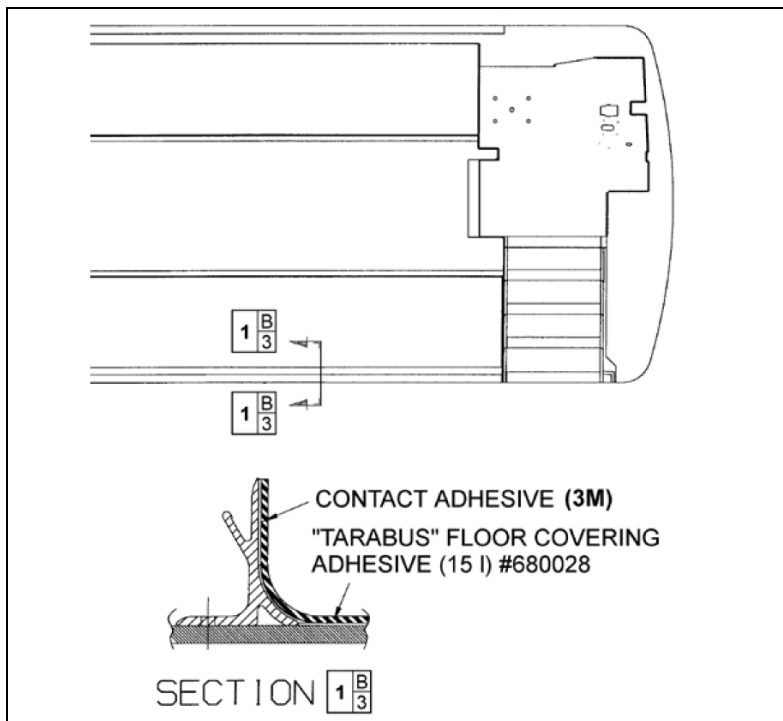

FIGURE 47: TARABUS FLOOR COVERING ADHESIVE APPLICATION 18640
6. Apply floor covering adhesive (680028) onto plywood using a serrated spreader with 1/8-inch serration. If required, apply contact adhesive (3M) (684655 or 684654) onto aluminum molding and also onto section of floor covering, which will be in contact with molding (refer to figure 47).